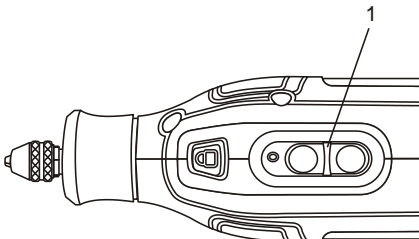

Fig. 13
To turn the switch (1) ON, slide it forward (Fig. 13). To turn the switch OFF, slide it back toward the rear of the tool.